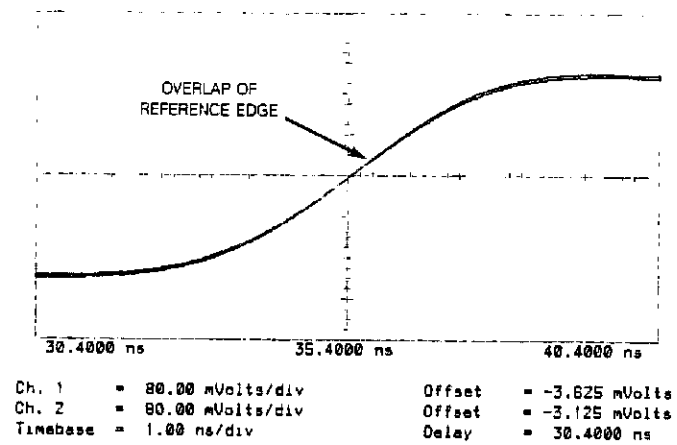

Figure 18-4. Reference Edge and Channel Overlapped
12. Use the entry devices and adjust the skew until the signal from the channel overlaps the reference edge. See figure 18-4. This nulls the systematic time differentials between the channels.
Figure 18-4 shows the reference edge and the channel overlapped after the skew for the channel was adjusted